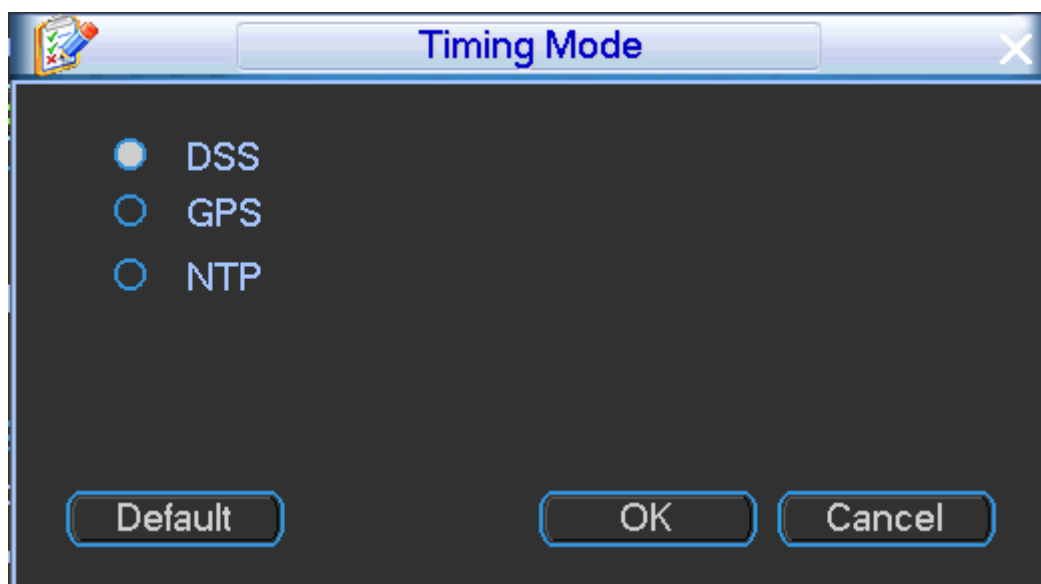

Figure 4-74
- Time Sync: There are three sync modes: DSS/GPS/NTP. See Figure 4-74.